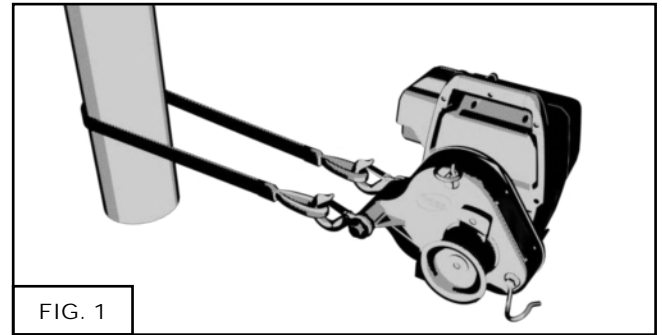

FIG. 1
Although a simple knot may sometimes suffice, we recommend using a bowline knot (fig. 1).
Your winch is supplied with a 2-meter polyester sling. To anchor the winch, wind it around the anchoring point with the sling. Insert each end of the sling in each of the two hooks located on the back of the winch (fig. 1).
- 1) Fig. 1, no.1: Use a bowline knot to link the two lines together.
- 2) Fig. 1, no.2: Allow approx. 1 m (3') of line to exceed the knot of the line pulling the load. This length of line will be used for pulling when the knot is undone.